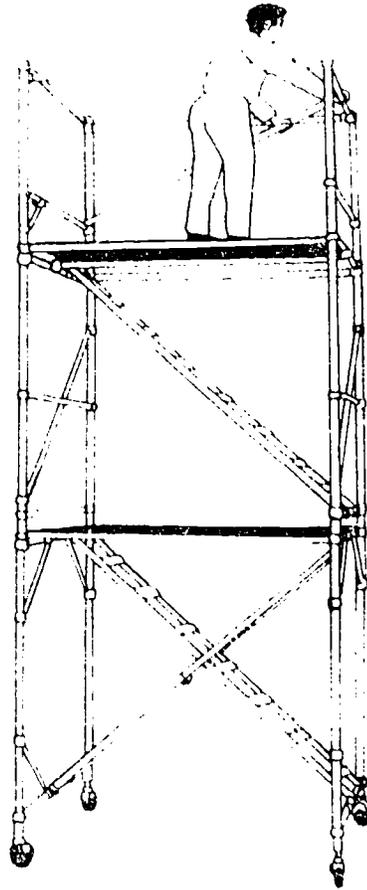

FIGURE 27. Place ends into sockets and lock diagonal brace
k. Snap the diagonal brace into position, as shown in Figure 27. Place an additional plywood platform over the stairway opening if the additional working area is needed.